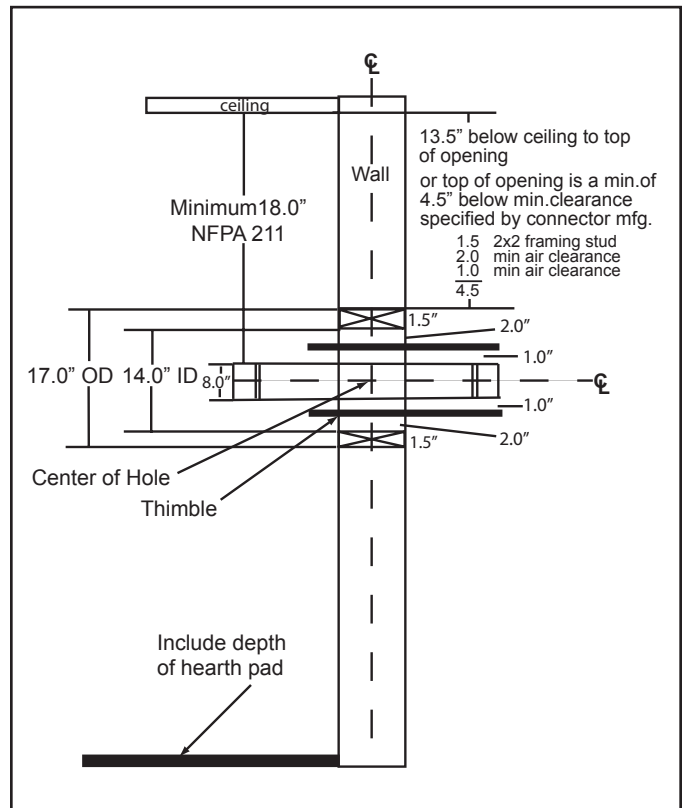

Figure 36.1 - Thimble Construction
- Top of wall opening is a minimum of 13-1/2 inches (343mm) from ceiling or 4-1/2 inches (114mm) below minimum clearance specified by chimney connector manufacturer. NFPA 211 minimum vertical clearance of 18 inches (457mm) from chimney connector and ceiling or minimum recommended by chimney connector manufacturer. **Figure 36.1.**
1. Open inside wall at proper height for the chimney connector to enter the masonry chimney. **Figure 36.1.**